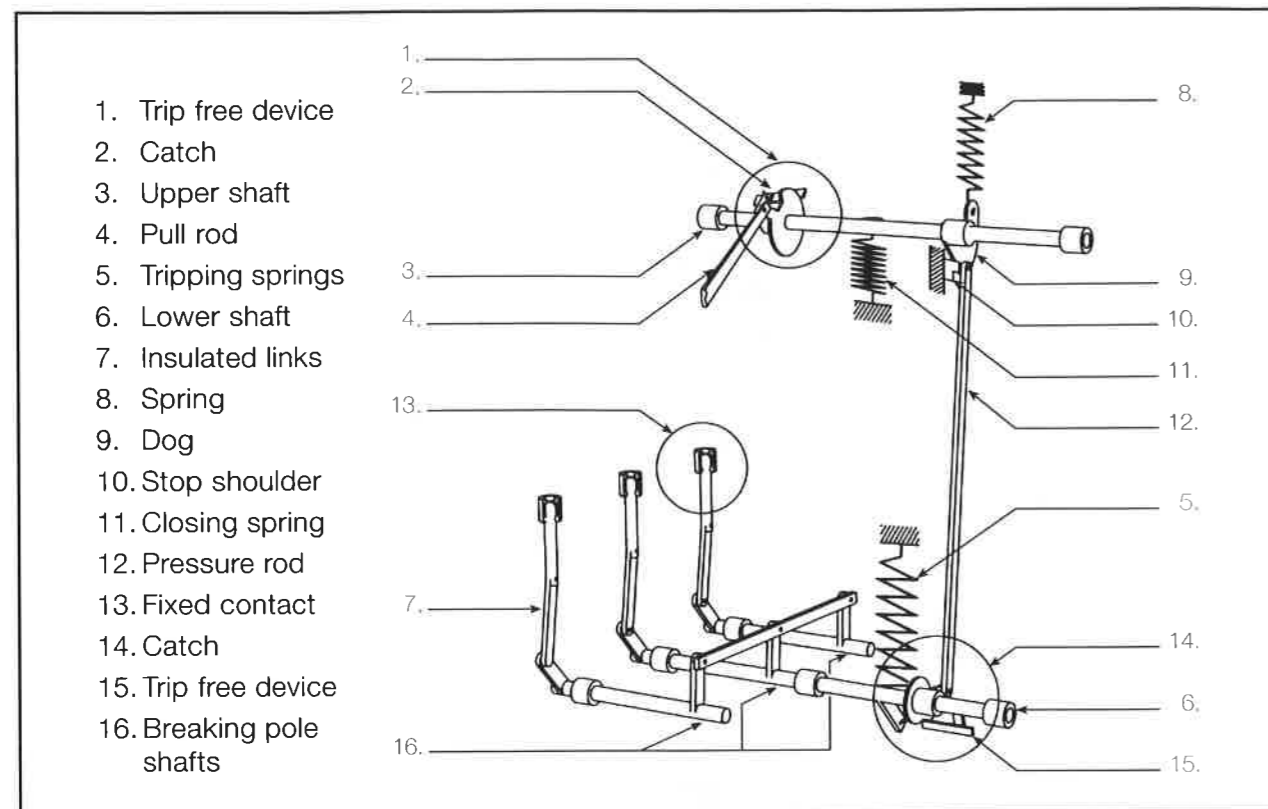
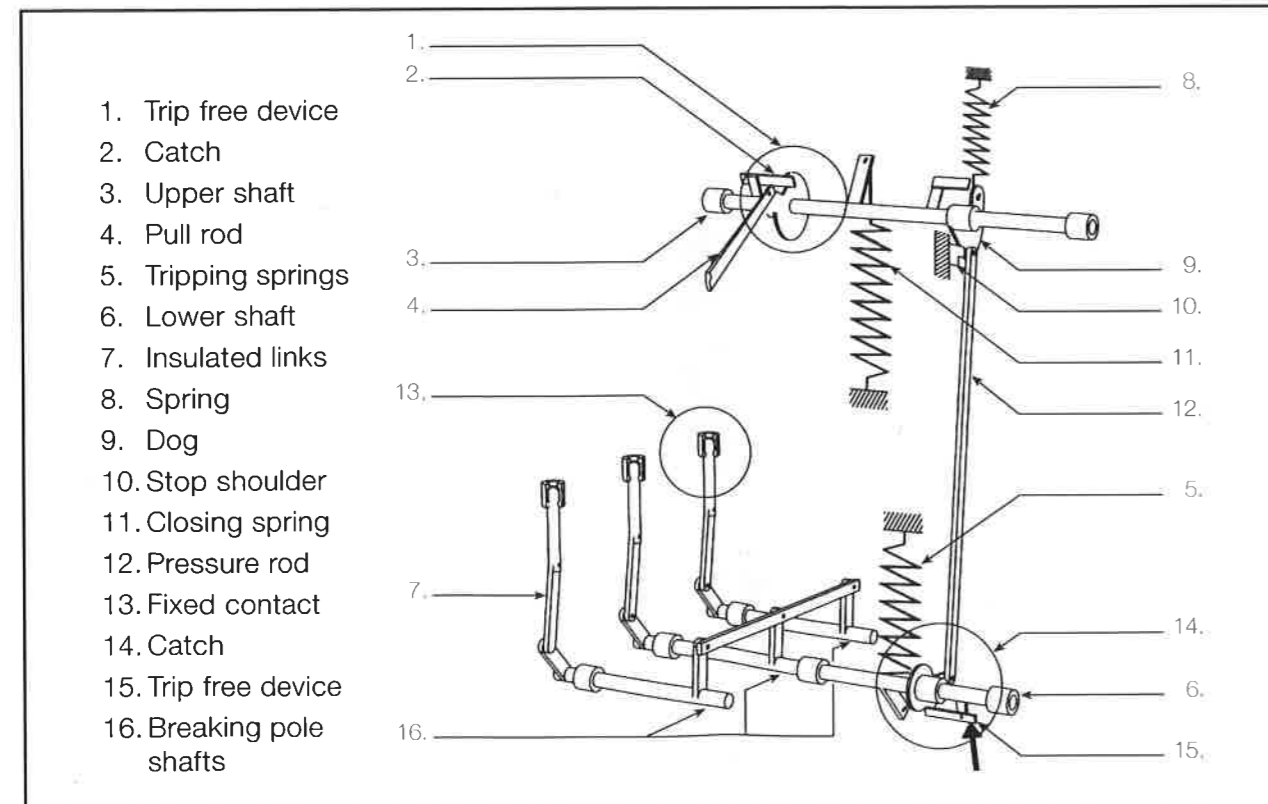

Fig. 6. Design of operating device, elementary diagram. Closed.
Fig. 7. Design of operating device, elementary diagram. Closing spring tensioned.
In Fig. 6, the breaker is in the Closed position and the tripping spring (5) has been tensioned. The dog (9) rests against the stop shoulder (10). The dog, together with the pressure rod (12), forms a toggle joint that via the trip free device (15) prevents the tripping spring from rotating the breaking pole shafts (16). Now the tensioning device starts up and the pull rod (4) moves until the catch (2) once again engages. There the pull rod (4) turns and the upper shaft is rotated and tensions the closing spring again and the position in Fig. 7 is reached.